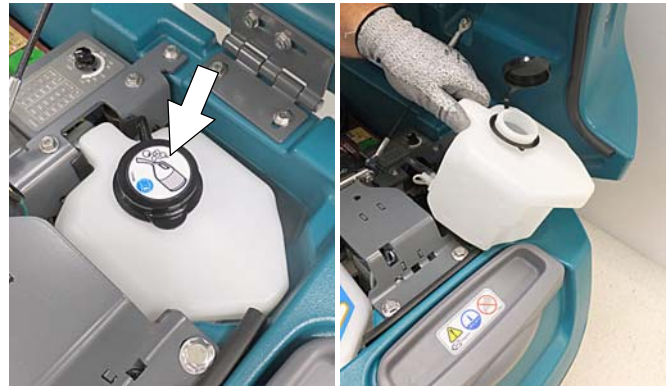

FIG. 144
3. Pour 4 liters of propylene glycol based recreational vehicle (RV) antifreeze into the solution tank.
Models equipped with optional Severe Environment detergent tank - Lift tank from machine and empty the detergent from tank (Figure 144). Return tank. Pour 1 liter of propylene glycol based recreational vehicle (RV) antifreeze into the detergent tank.